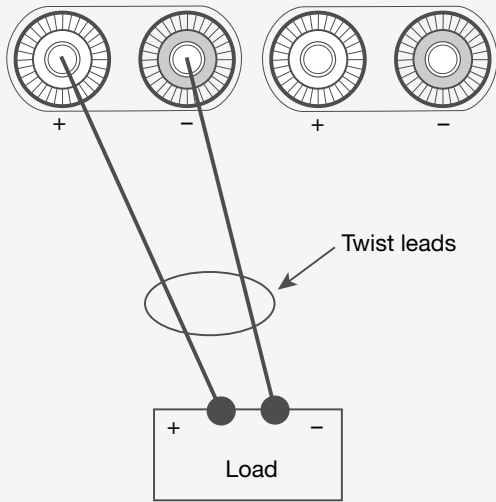

Figure 10. Set-up that enables higher current capability
Step 1. Connect your wires as they appear in Figure 10